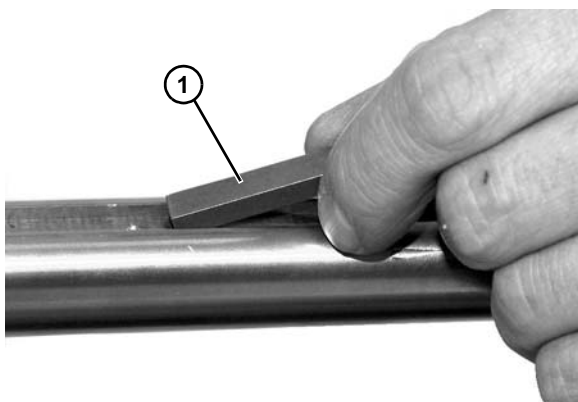

Figure 46
3. Remove output shaft key (Figure 46, item 1).